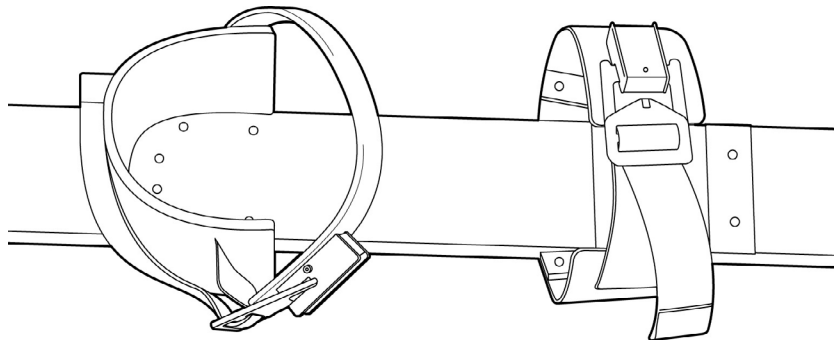

Figure 5. Ski Binding.
**Ski Binding.** The ski bindings (Figure 5) are commercial, North Atlantic Treaty Organization (NATO) 120 Bindings. This binding is a cable binding consisting of a front throw, a toe piece, a heel plate, and cable with guides. The cable is engaged in the guides for downhill skiing and release from the guides to allow the heel to lift for cross-country skiing. The front throw is equipped with a release mechanism to release the cable in the event of a fall while in the downhill mode.